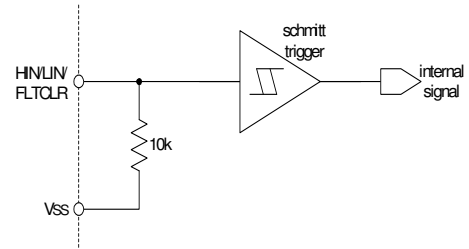

Figure 2: HIN, LIN and FLTCLR Diagram
**Pins:  $H_{IN}$ ,  $L_{IN}$ ,  $FLTCLR$ ,  $FAULT/SD$ ,  $SY\_FLT$  (refer to Fig. 2, 3)**